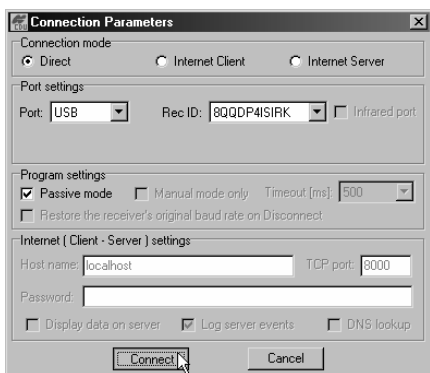

Figure 3-6. USB Connection Parameters
- for USB connections (Figure 3-6):